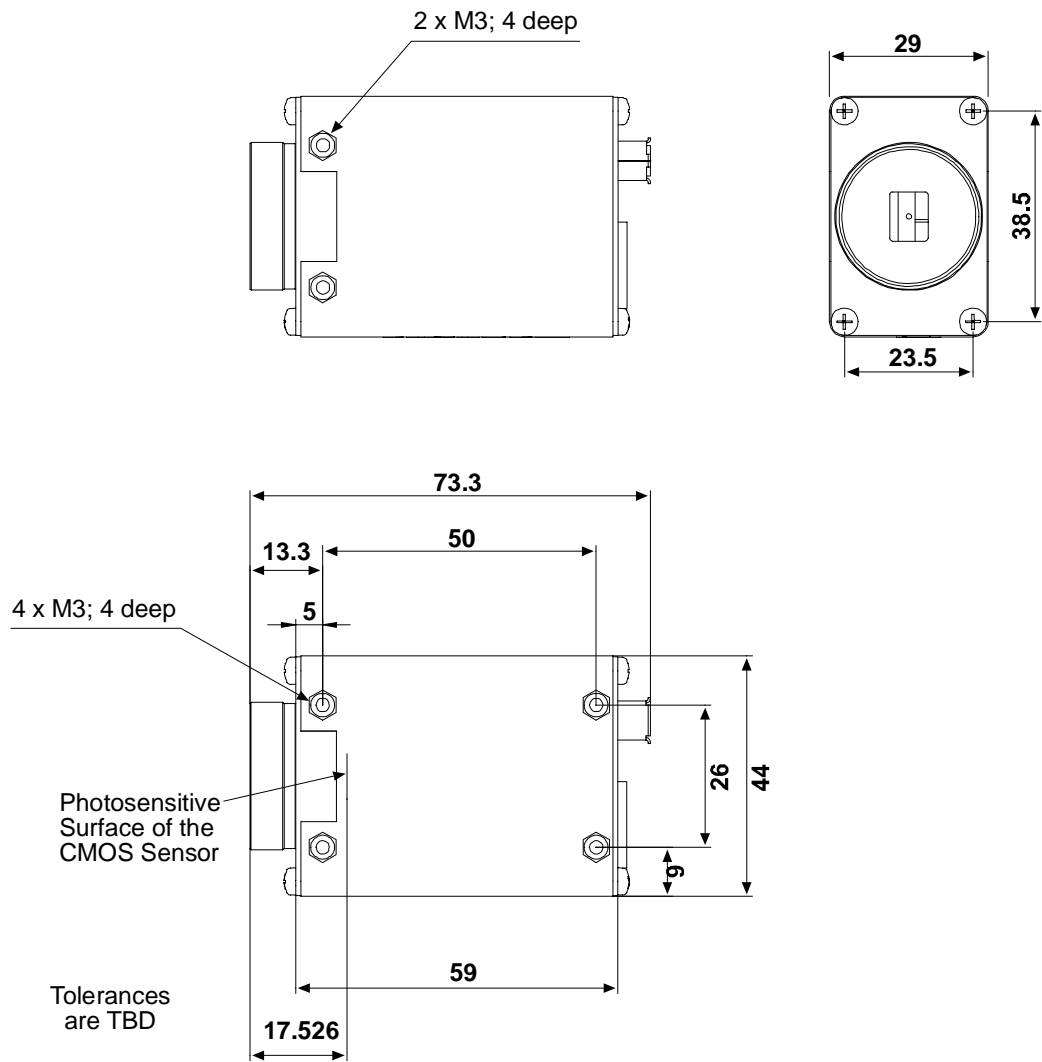

Figure 6-1: A600f Mechanical Dimensions (in mm)
**A600f** cameras are equipped with four M3 mounting holes on the bottom and two M3 mounting holes on the top as indicated in Figure 6-1.